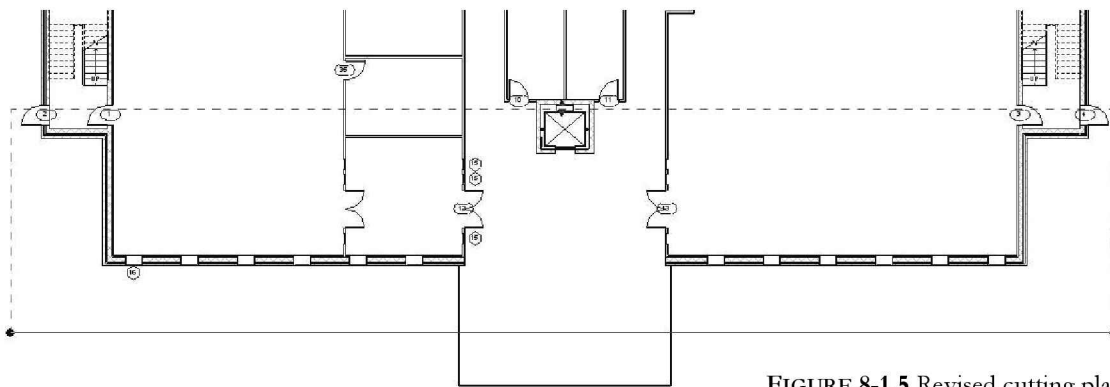

FIGURE 8-1.5 Revised cutting plane
15. With the elevation tag still selected (as in Figure 8-1.3), drag the “cutting plane/ extent of view” line up into the atrium as shown in Figure 8-1.5.